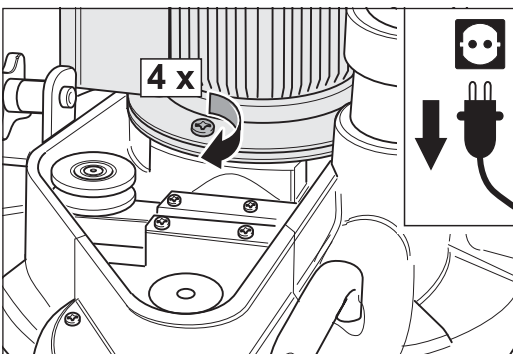

Fig. 97 Fix the motor to the machine housing by homing in the four fixing screws.
- 3 Fix the motor to the machine housing by homing in the four fixing screws (fig. 97).